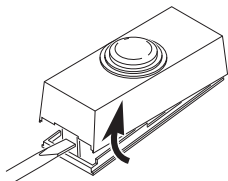

Figure 1
1. **Remove orange battery tab from push button.** Remove back of case by pushing in tab on bottom with a small screwdriver (see Figure 1). Remove orange battery tab.
- **Screw Mounting:** To mount with screws, remove back of case by pushing in tab on bottom with a small screwdriver (see Figure 1). *Note:* Remove material in screw holes (if needed) before mounting with screws. Attach back of case to door jamb or wall (see Figure 3). Snap front of push button on.